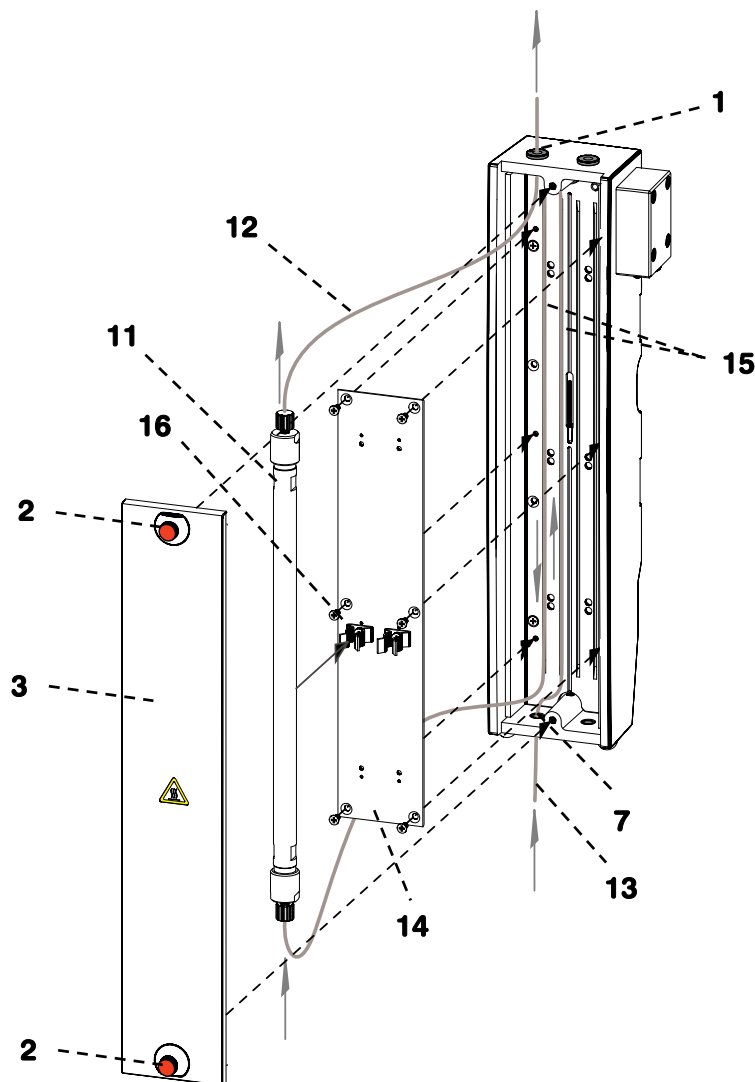

Figure 5: Connecting the separating column and removing the holder plate
- Lead column inlet capillary **13** into the column heating through feedthrough **7** and insert it in capillary prewarming slot **15** as shown in *Figure 5*.